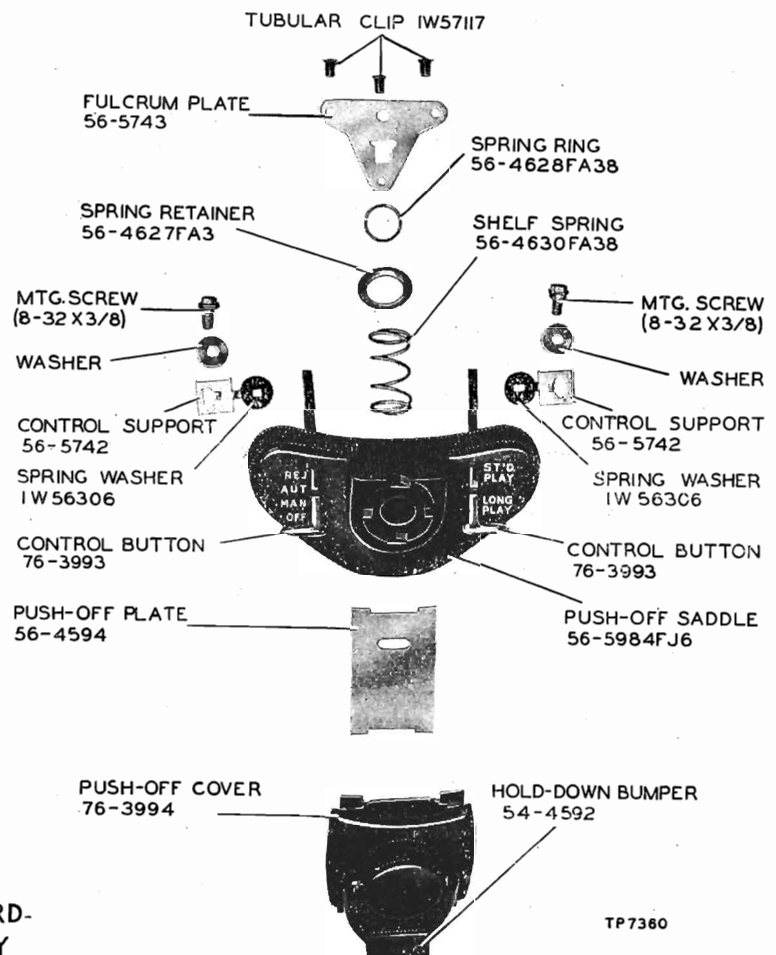

FIGURE 27 RECORD-SHELF ASSEMBLY
- Lift out entire record-shelf assembly through top of changer base plate. Figure 27 shows the assembly of the record shelf